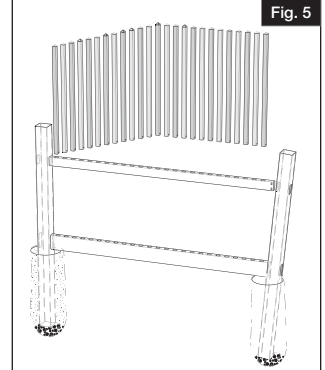

Fig. 5
- b. Starting from the left side, insert pickets/boards down through the top rail. Finish by locking pickets/boards into bottom rail (Fig. 5).